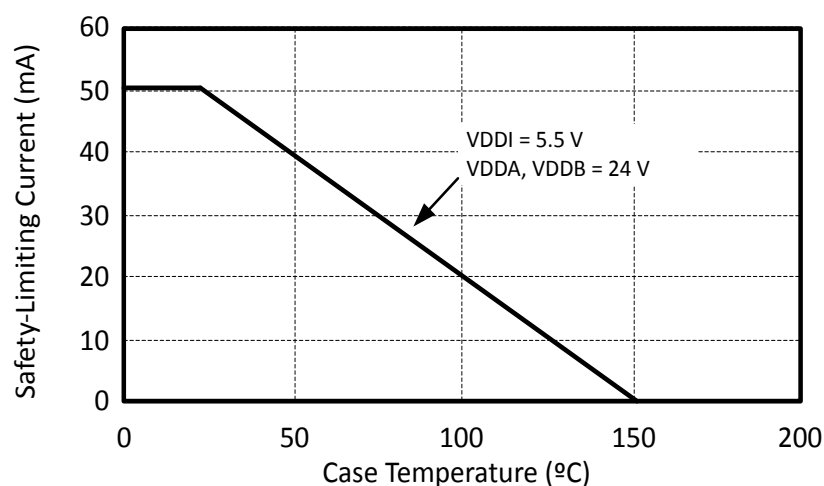

Figure 3.4. WB SOIC, NB SOIC, 14 LD LGA/QFN Thermal Derating Curve, Dependence of Safety Limiting Values with Case Temperature per VDE 0884-10
- Maximum value allowed in the event of a failure. Refer to the thermal derating curve in Figures [Figure 3.4 WB SOIC, NB SOIC, 14 LD LGA/QFN Thermal Derating Curve, Dependence of Safety Limiting Values with Case Temperature per VDE 0884-10 on page 31](#).